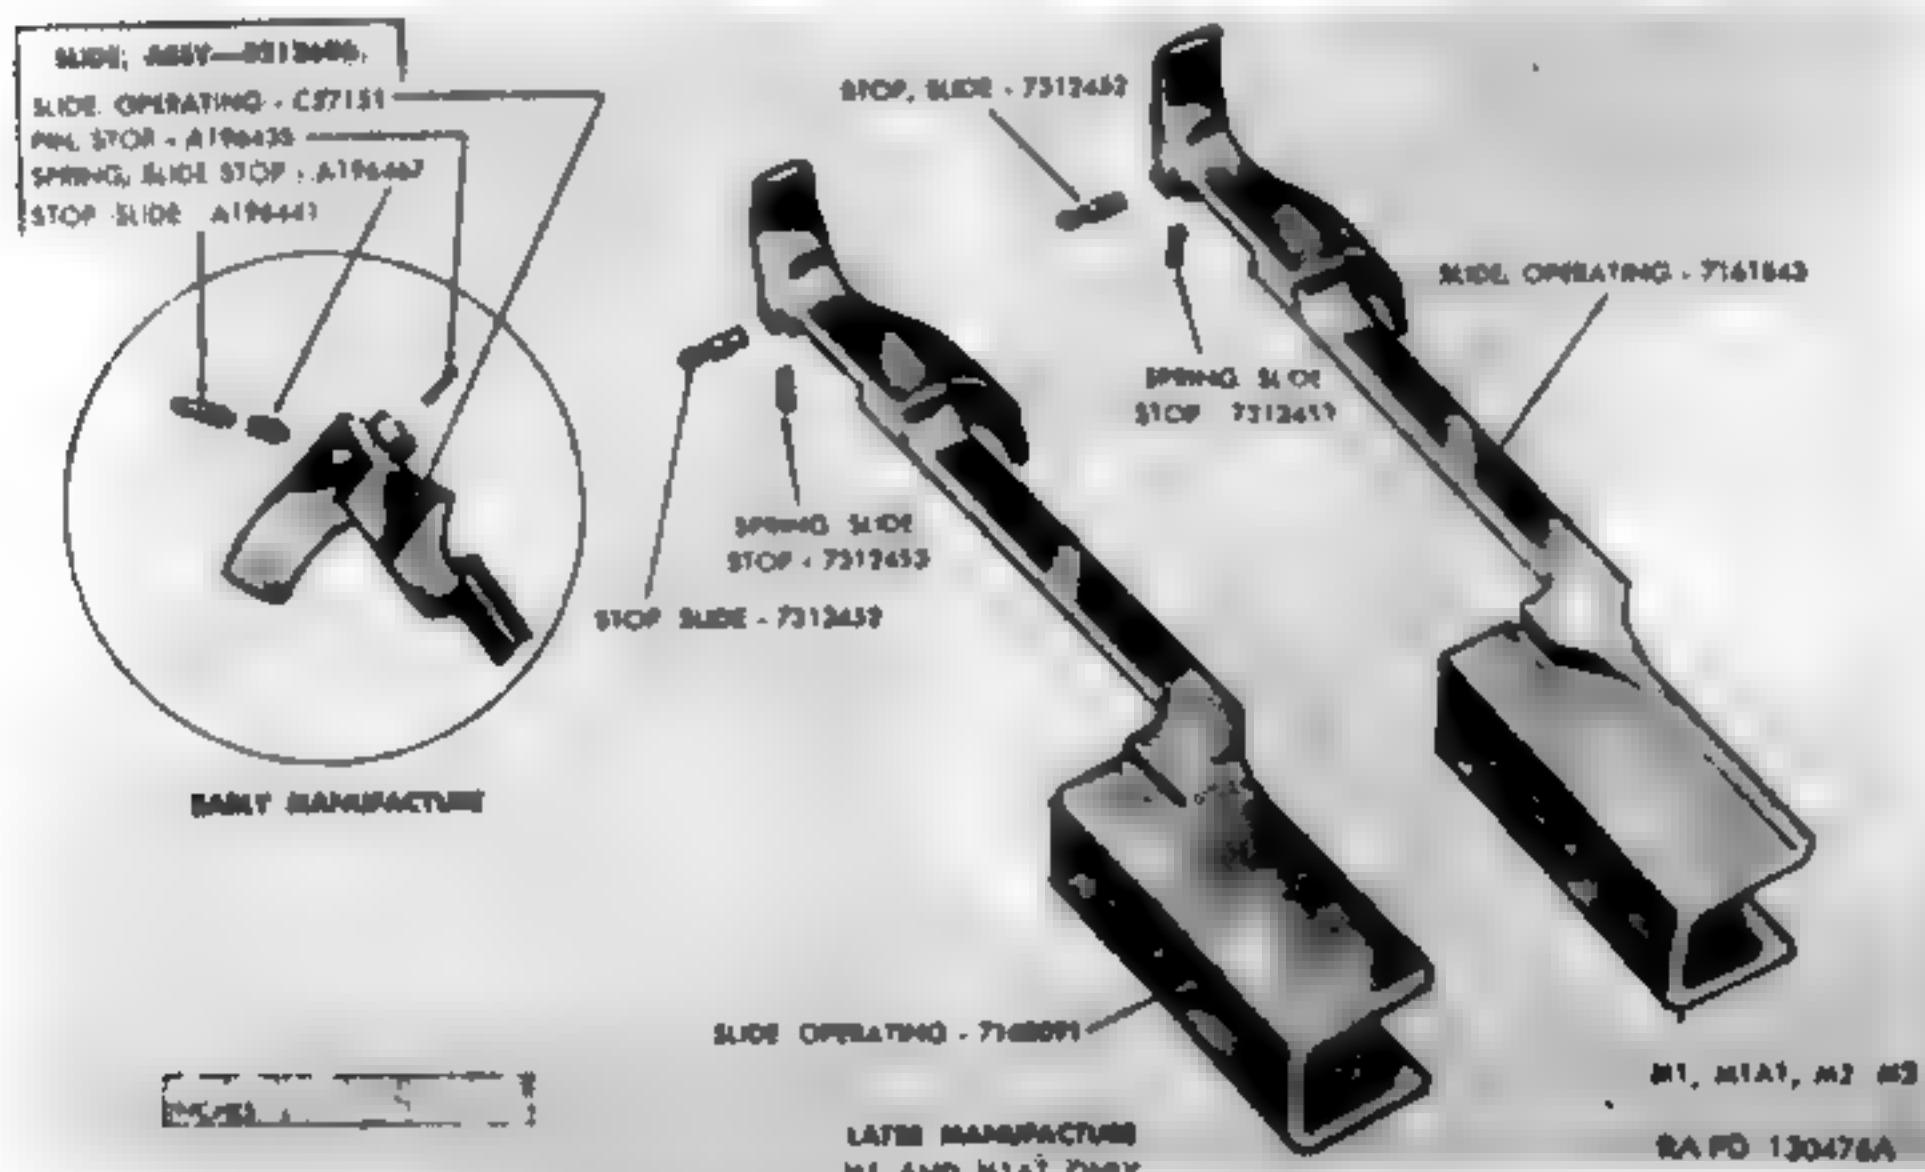

Figure 57. Operating slide assembly.
a. Operating Slide (Fig. 57). Check slide for bent or cracked rear bar, deformation, excessively worn guide lugs, burrs, and corrosion. Inspect bolt camming lug recess for wear and burrs. Inspect spring guide seating recess in rear face for wear, burrs, and foreign matter. Inspect front race of
b. Operating Slide Stop and Stop Spring (Fig. 57).
(1) For depot maintenance, check to assure that stop 7312452 and spring 7312453 are used. For field maintenance, old type is satisfactory if it functions properly.
(2) Inspect stop for wear and burrs, looseness in operating slide, and rust. Inspect stop spring for functioning, lack of friction with stop, and for set. Inspect spring for foreign matter.